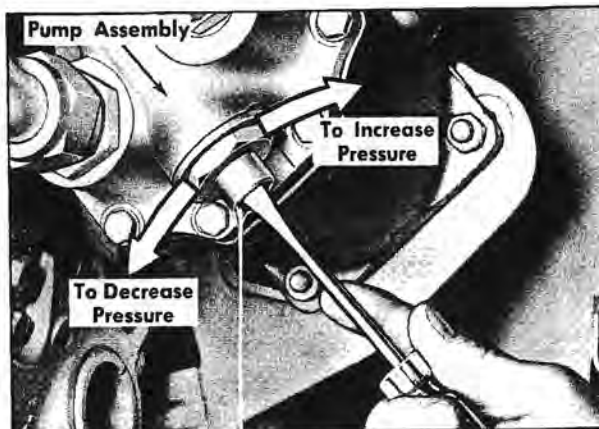

Figure 134—Adjusting Pump Pressure to Change Fan Speed
2. If not within speed tolerance, remove hex-head plug at pump relief valve, then quickly turn adjustment screw in 3/4 turn for 100 rpm increase of fan speed, or turn screw out to decrease fan speed (fig. 134). NOTE: A small amount of oil will be lost.